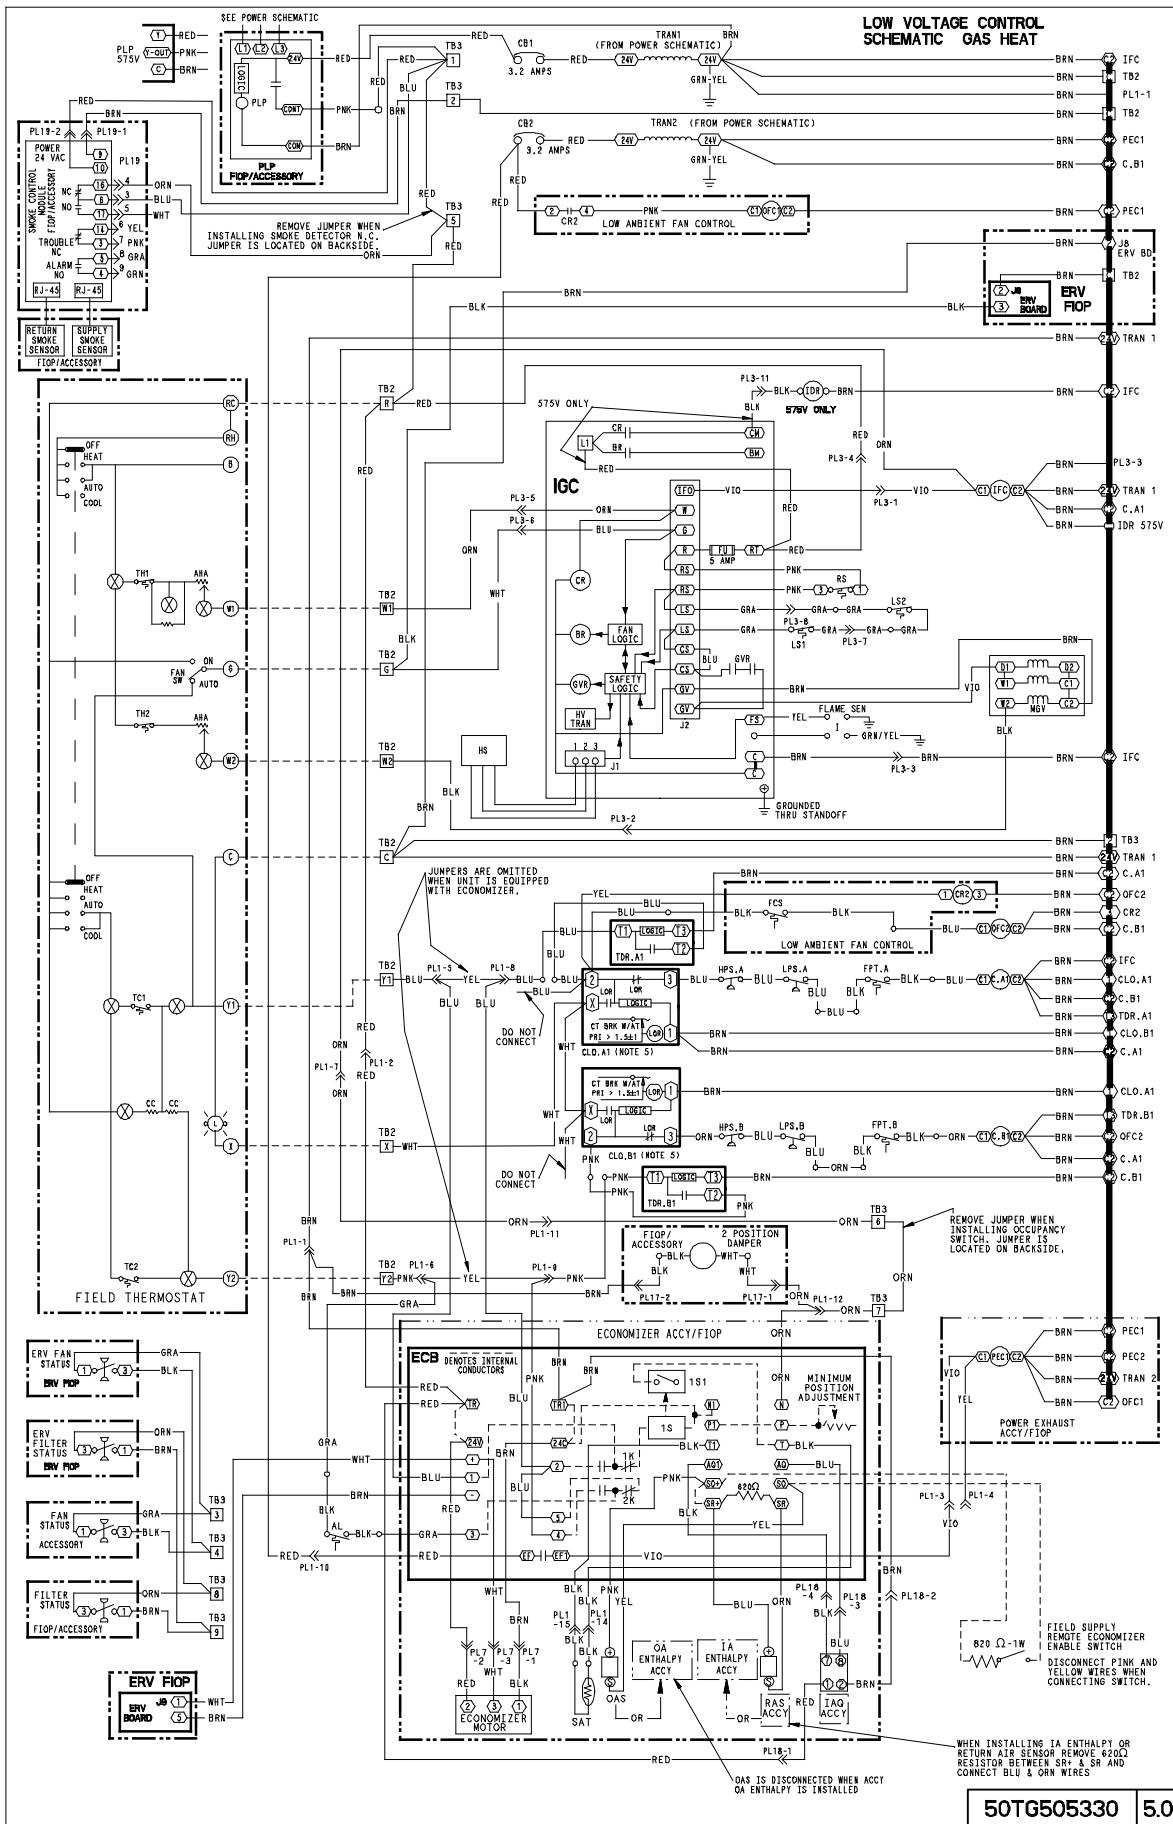

Fig. 41 - Typical Low Voltage Control Schematic
4. Adjust spark gap. (See Fig. 41.)